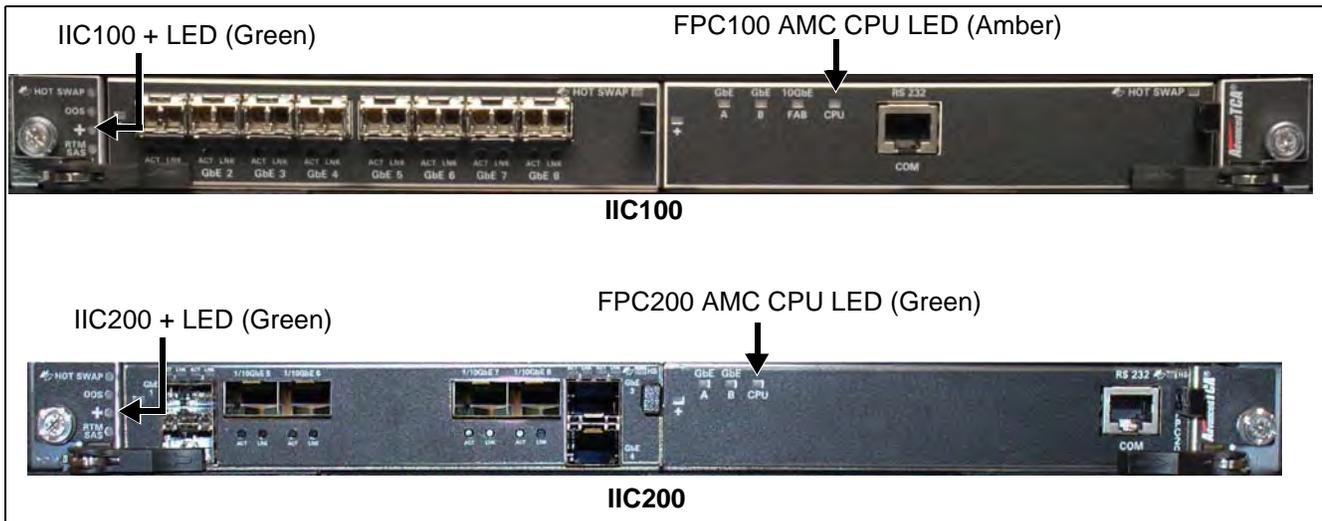

Figure 5.32 - G10 IIC100 and IIC200 LED Verification
7. Verify the following LEDs on the front of the IIC (**Figure 5.32**):